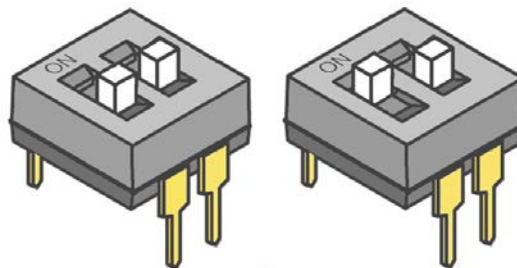

Figure 4-2. Switches
**WARNING** There aren't any differences between the two switches pictured in Figure 4-2. It doesn't matter which is "ON" and it is enough to activate only one.